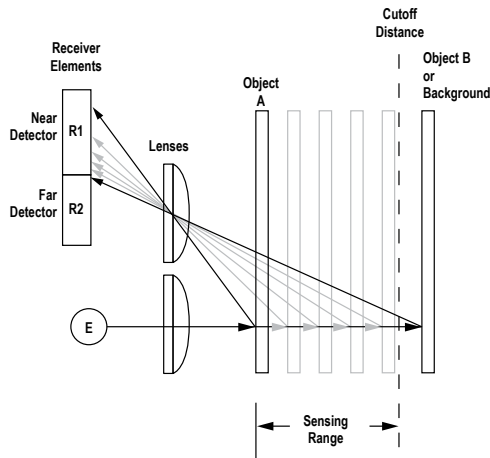

Figure 1. Adjustable field sensing concept
The Q60LAF compares the reflections of its emitted light beam (E) from an object back to the sensor's two differently-aimed detectors R1 and R2 (see Figure 1 on page 3). If the near detector (R1) light signal is stronger than the far detector (R2) light signal (see object A, closer than the cutoff distance), the sensor responds to the object. If the far detector (R2) light signal is stronger than the near detector (R1) light signal (see object B, object beyond the cutoff distance), the sensor ignores the object.